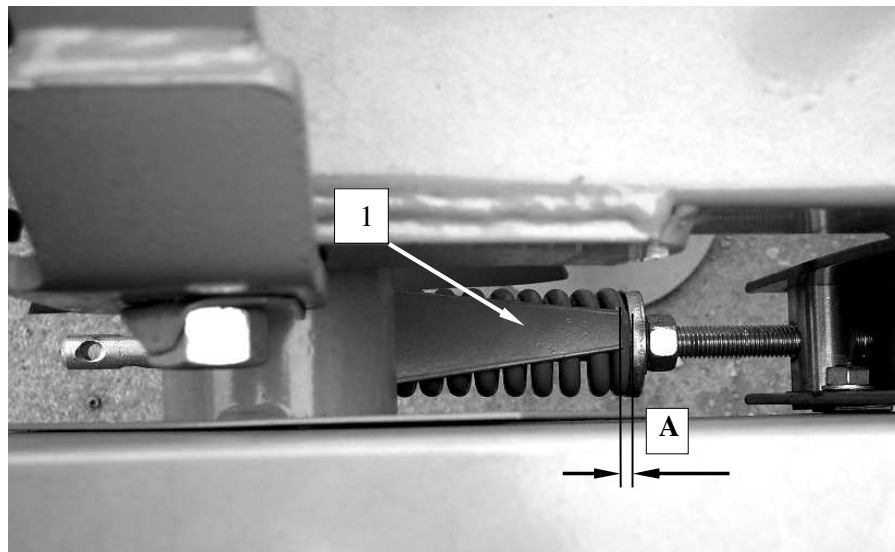

Fig. 30. Spring V-belts tensioner, 1 – checking plate. Check dimension "A" should be 0 – 0.12"
Check the V-belt tension. Their deflection under finger pressure must not exceed 1.18". V-belts are tensioned with spring tensioner (**Fig. 30**) equipped with checking plate (1). Distance "A" between plate tip and holder should be 0 – 0.12". If the gap is wider the V-belts will be slacken.